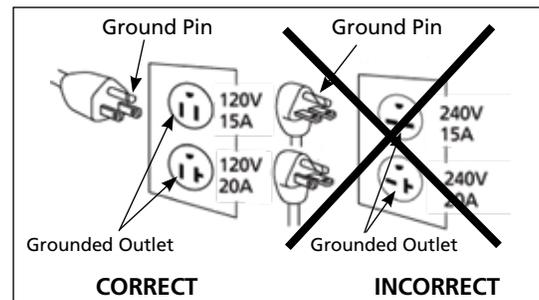

Figure 2 - Grounding Method
- This product is for use on a nominal 120 v circuit. It must be grounded. In the event of an electric short circuit, grounding reduces the risk of electrical shock by providing an escape wire for the electric current. Unit is equipped with a cord that has a grounding prong. It will fit one of the common outlet types shown in Figure 2. If plug will not fit in the desired outlet, have the plug or the outlet replaced by a qualified electrician.
1. If the plug on the electrical cord of the unit is unfamiliar to you or will not fit your particular receptacle, Figure 2 will help you understand why by illustrating the different plugs and the voltages they are to be used with.
3. This product is for use on a nominal 120 volt circuit and has a grounding plug that looks like the plug illustrated in Figure 2.